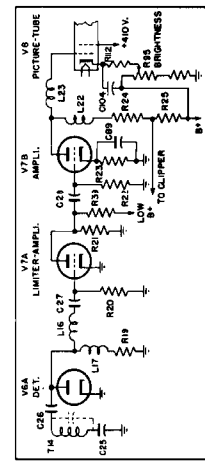

Fig. 4. Video Detector and Amplifier
6. VIDEO DETECTOR AND AMPLIFIER (SEE FIGURE 4)—The video i-f amplifier output is applied to one section of a 6AL5 dual diode, V6A, which is connected as a shunt diode so as to develop a negative-going signal across the diode load resistance, R19. The signal is then amplified by two triode amplifier stages using a Type 12A07 dual triode tube, V7. L16 and L23 are series compensating coils, while L22 and L17 are shunt compensating coils. These are used to obtain good high frequency response and provide sharp cut-off at frequencies above the usable pass band. L16 also helps prevent harmonics of the i-f frequency from being passed through the video amplifier.